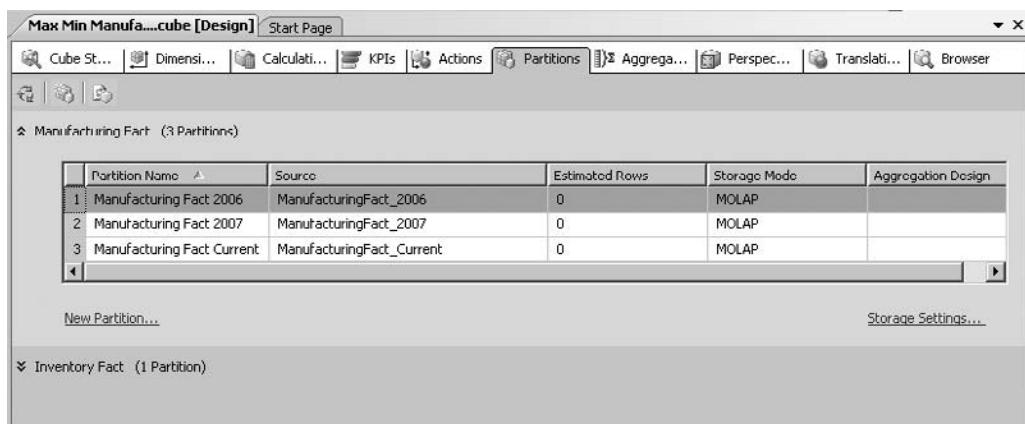

Figure 10-32 The Manufacturing Fact measure group with three partitions
21. Click OK to confirm the deletion. Click the Save All button on the toolbar. The Partitions tab should appear as shown in Figure 10-32.